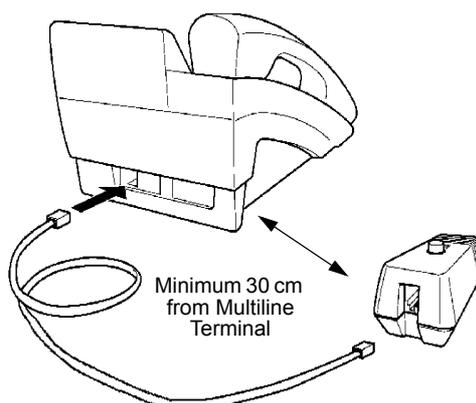

Figure 7-52 Attaching a Microphone to a Multiline Terminal
1. Plug the microphone cord into the jack on the HFU-UA (WH) Unit as shown in *Figure 7-52 Attaching a Microphone to a Multiline Terminal*.